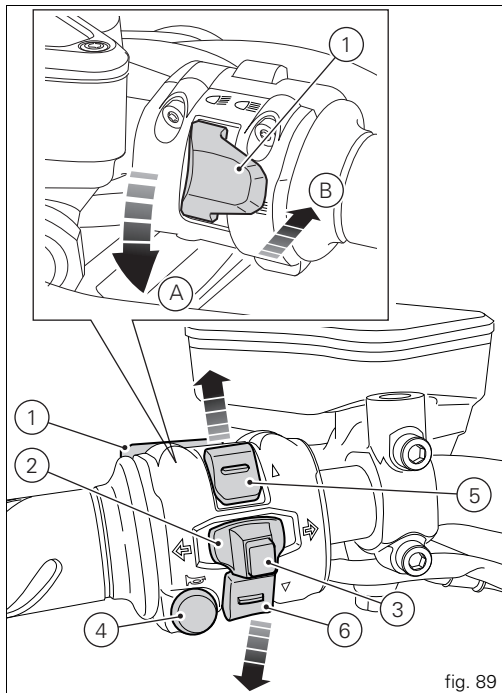

fig. 89
LH switch (fig. 89)
- 1) Dip switch, light dip switch, two positions (fig. 89):
- 2) Button  = three-position turn indicator (fig. 89):